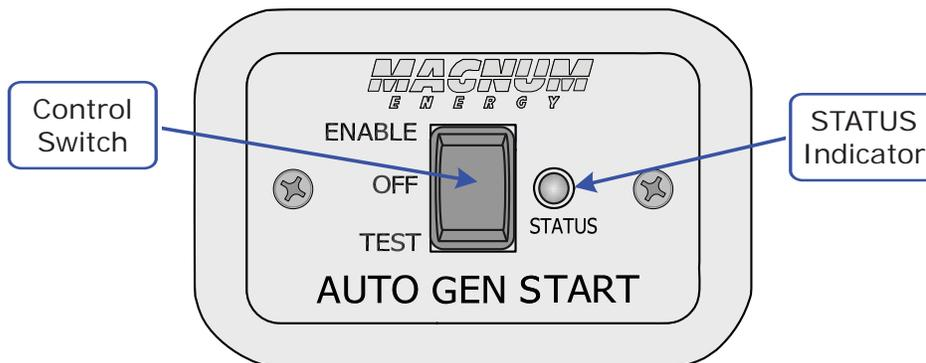

Figure 4-2, Remote Switch Controls and Indicators
- b) the switch to the *TEST* position (on the remote switch - see Figure 4-2).
The AGS remote switch (see Figure 4-2) provides information and enables you to operate the controller. The remote switch receives its power from the controller through the communications cable and comes on automatically when power is applied to the AGS controller.